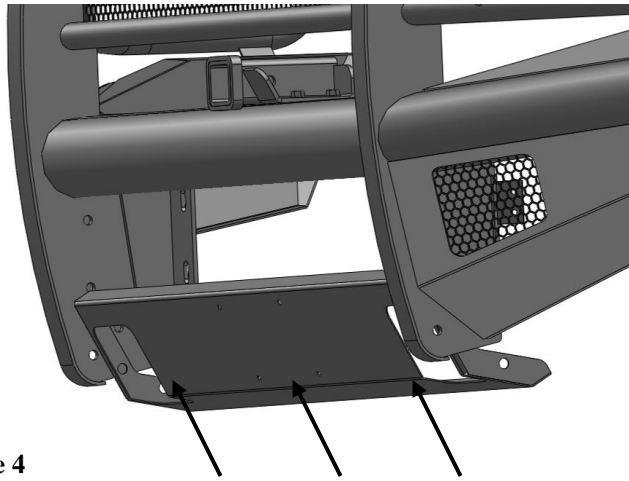

Figure 4
1. Install the lower guard ***(IF INSTALLING A WINCH SEE WINCH TRAY INSTALLATION INSTRUCTIONS)*** by rotating it into position from the bottom of the bumper as shown below. Install three (3) 1/2"-13 bolts provided in the hardware kit (20260-HW) on each side with bolt heads facing the inside of the bumper. **(Figure 4)**